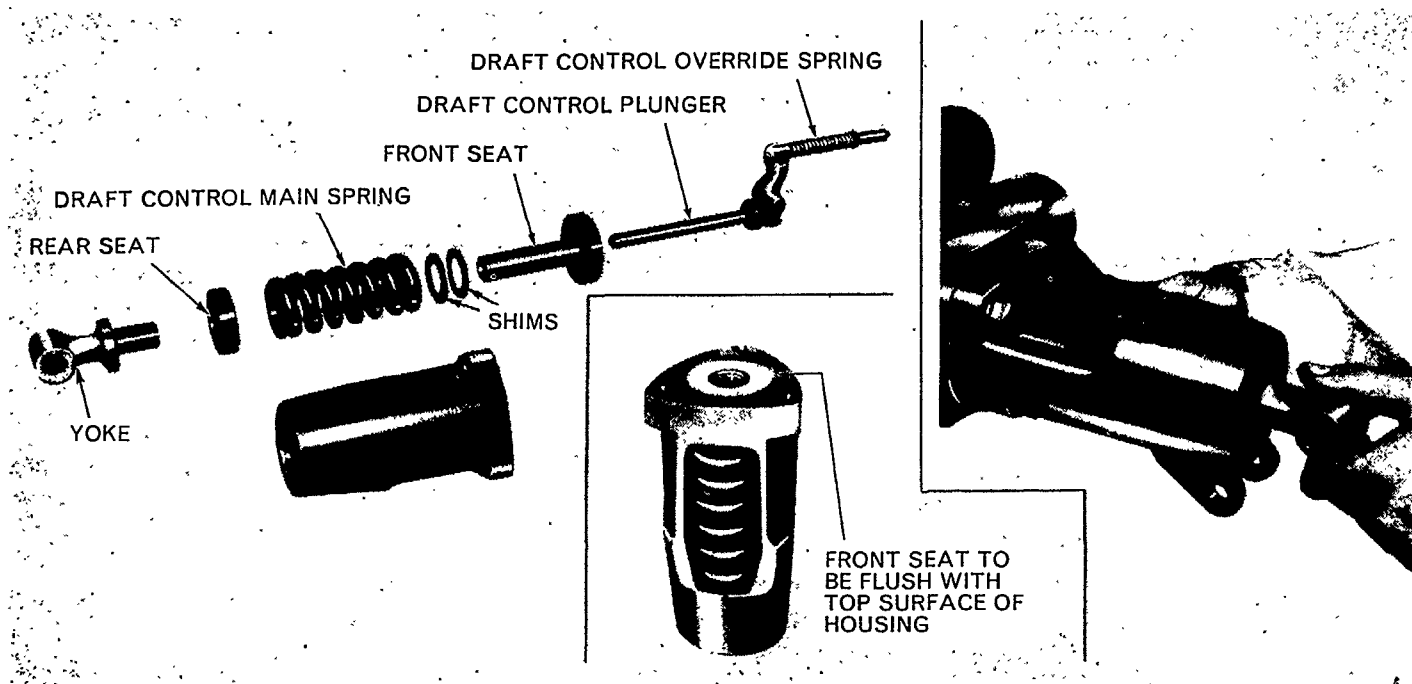

Figure 15
1. Assemble the rear spring bearing, Figure 15, draft control main spring and front spring seat into the draft control main spring housing.
2. Note the distance between the top face of the front seat and the surface of the housing, see inset—Figure 15.
5. Screw the yoke in until all free play is eliminated. Unscrew the yoke to the nearest position to bring the hole in the yoke horizontal, inset—Figure 15.